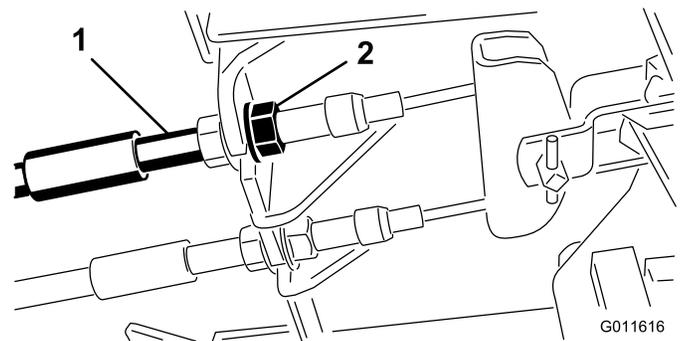

Figure 64
1. To reduce free travel of the brake pedals, tighten the brakes by loosening the front nut on the threaded end of the brake cable (Figure 64).